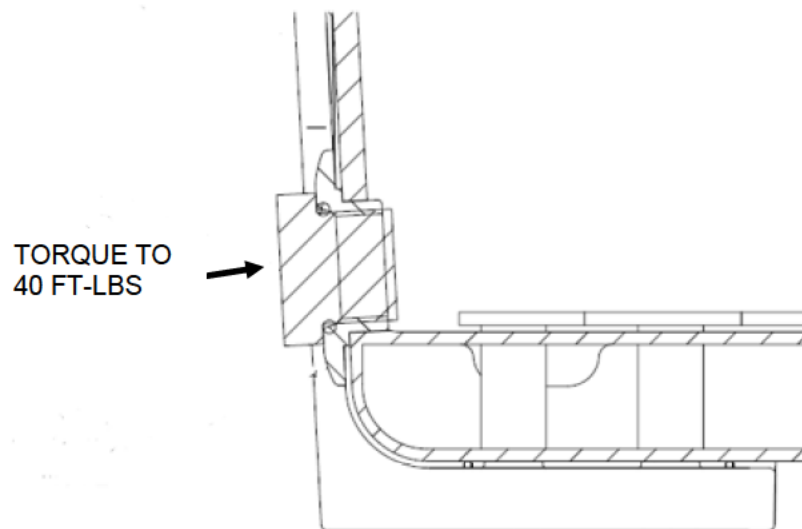

Figure 29: Cross-Section of Port and Plug Assembly
11. After 30 mins elapsed, check again that there are no obstructions in the threads. Torque the supplied drain plug PN 1019455 to 40 ft. lbs. per Figure 29.. **DO NOT OVERTORQUE.**